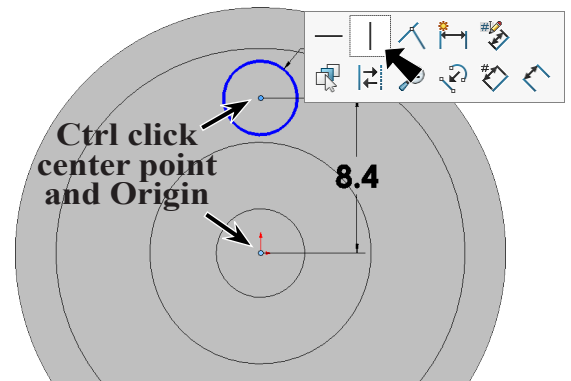

Fig. 21
Step 9. **Ctrl click centerpoint of circle and Origin**  to select both. Release Ctrl key and click **Make Vertical**  on the context toolbar, Fig. 21.